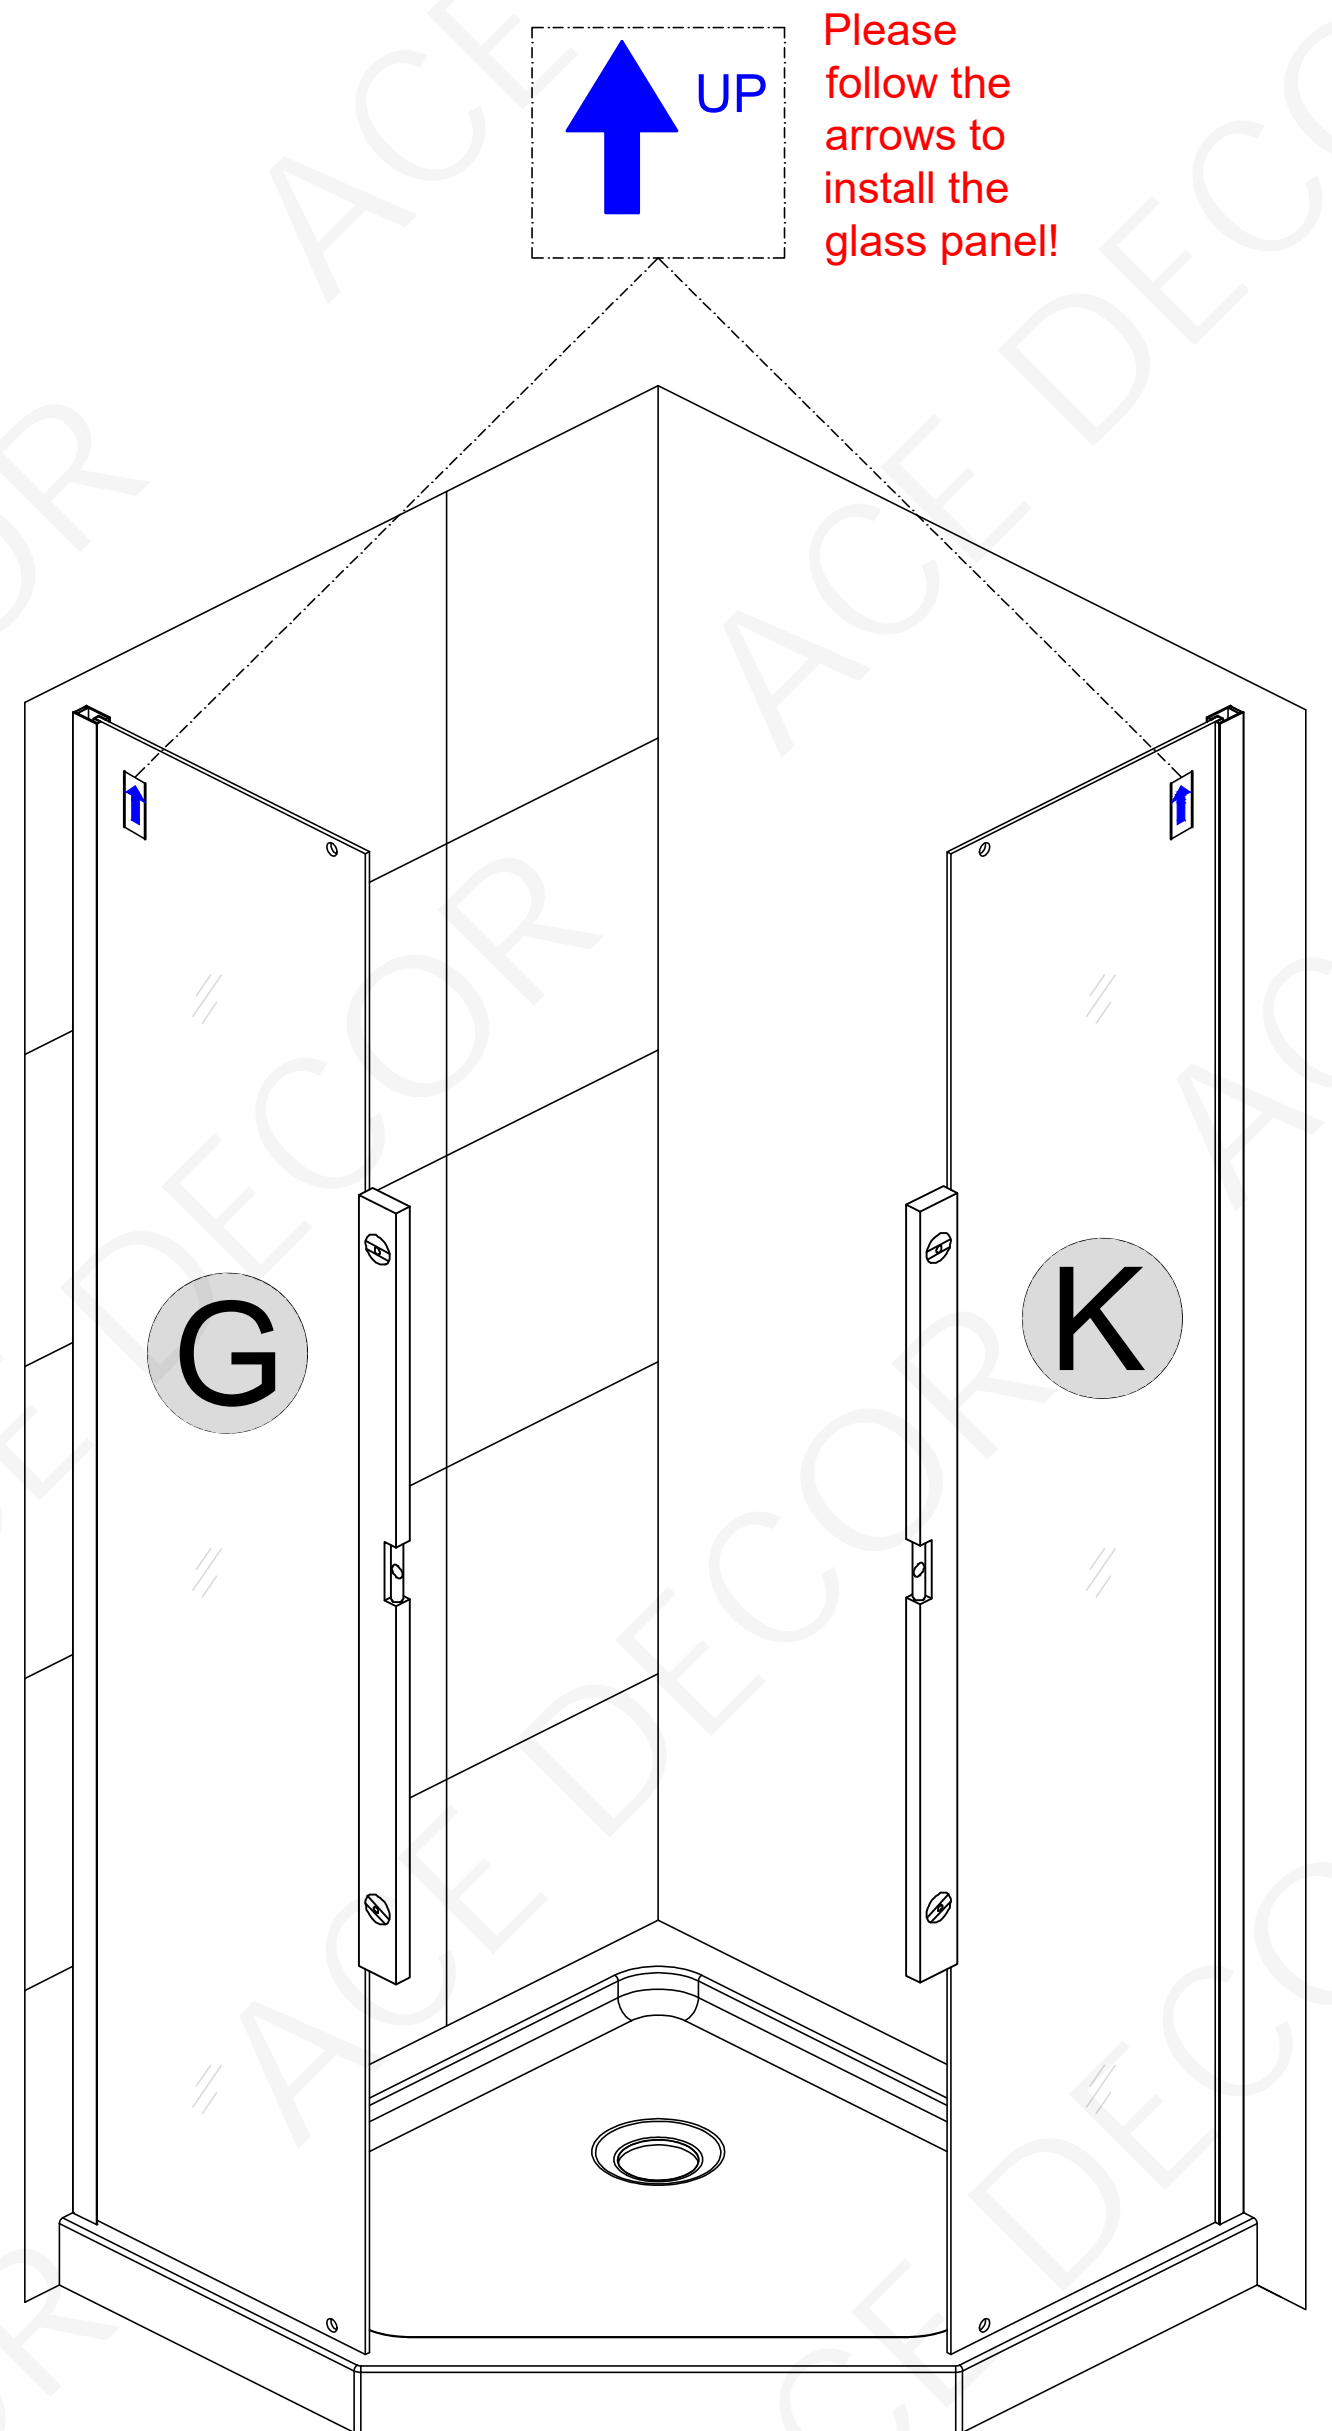

Fig 3b
Insert each **Stationary Glass (G&K)** into the installed **Wall Jamb (H)** and check the panels for plumb. (Fig 3a and Fig 3b)